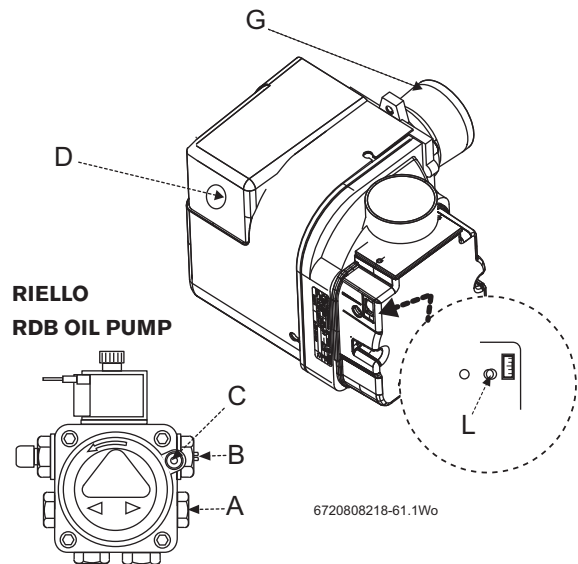

Fig. 71
- ▶ Wait 2 minutes then press the lockout reset button D (→ figure 71) to initiate another start sequence.
- ▶ Release the burner retainer nut (F).
- ▶ Check for after-spurting from the nozzle, indicated by oil saturation on the combustion head (→item G, figure 71).